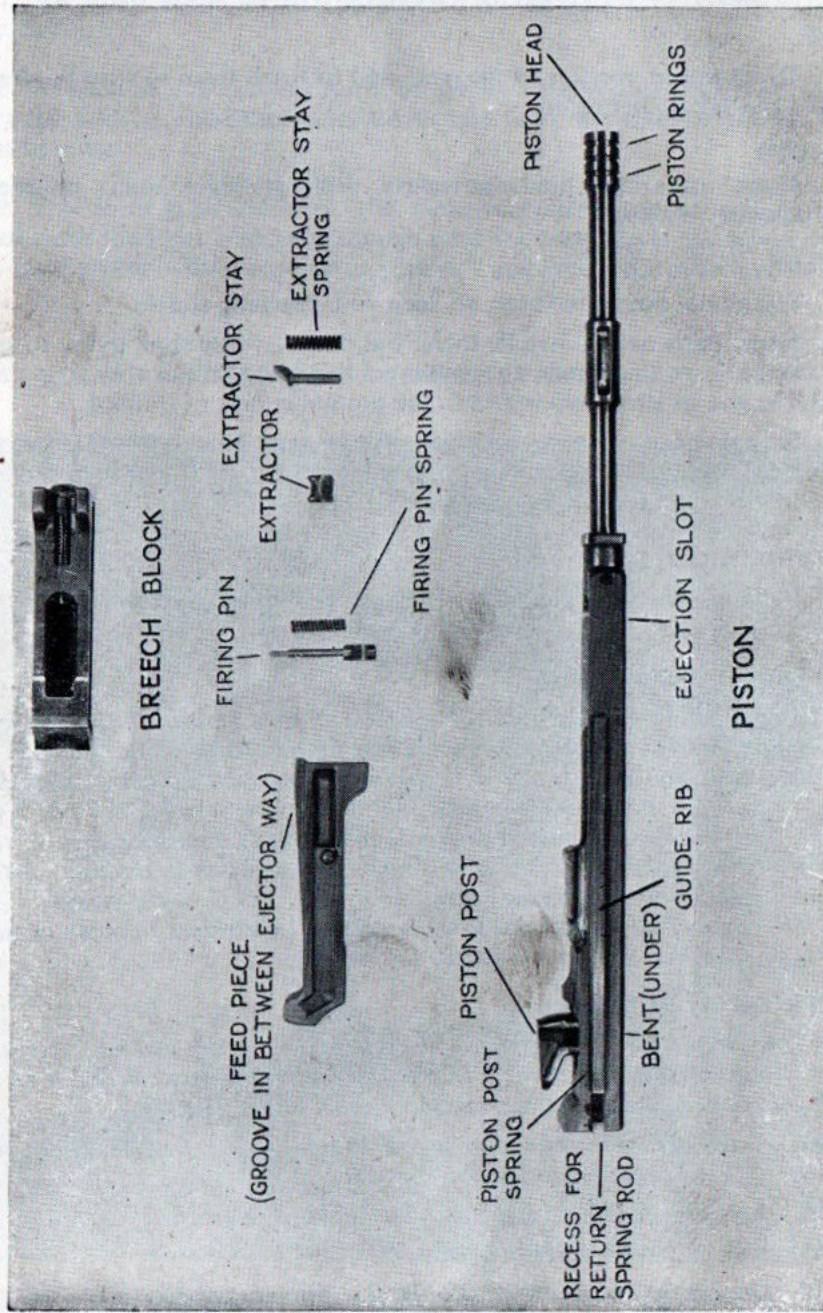

Fig 2.—The piston group
13. The piston group (see Fig 2).—To strip it:—